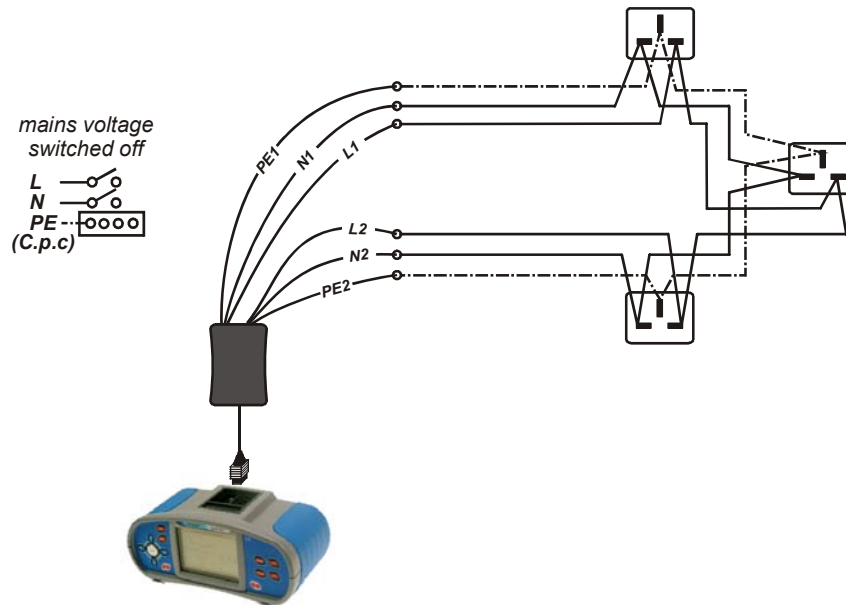

Figure 5.24: 1. step - measurement resistances  $r_1$ ,  $r_N$  and  $r_2$
- ❑ **Connect** Ring adapter to the tested installation (see *figure 5.24*).